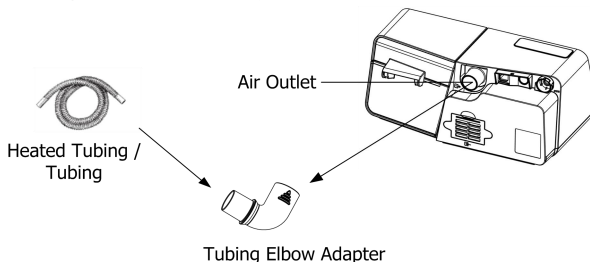

Fig. 12-12
(3) To apply the tubing elbow adapter, connect the tubing elbow adapter between the device air outlet and the tubing (heated or standard tubing) as shown in Fig. 12-12. The 90-degree elbow helps to direct the tubing.